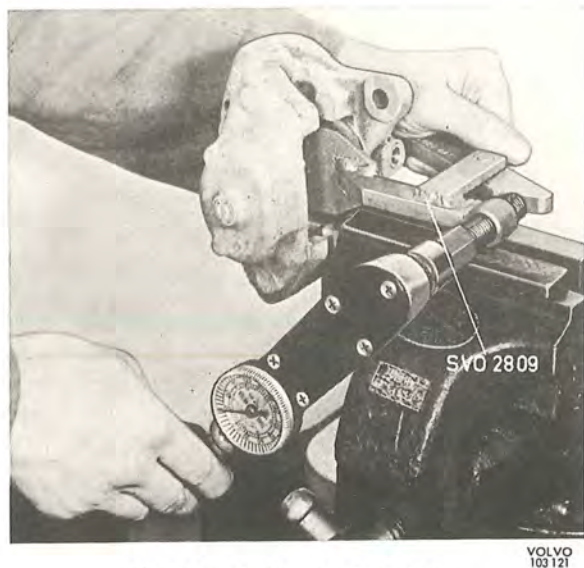

Fig. 5-29. Checking the A.S.B.-device
3. Fit one of the pistons in the caliper. Make sure that the piston does not come at a slant and is scored or that it damages the pin for the A.S.B.-device. Press in the piston with tool SVO 2809. Check the A.S.B.-device for stiffness with a torque wrench, see Fig. 5-29. The force required to press in the piston should be between 20—80 kgcm (17.3—69.3 lb.in.). If the force required is otherwise, the piston must be replaced.